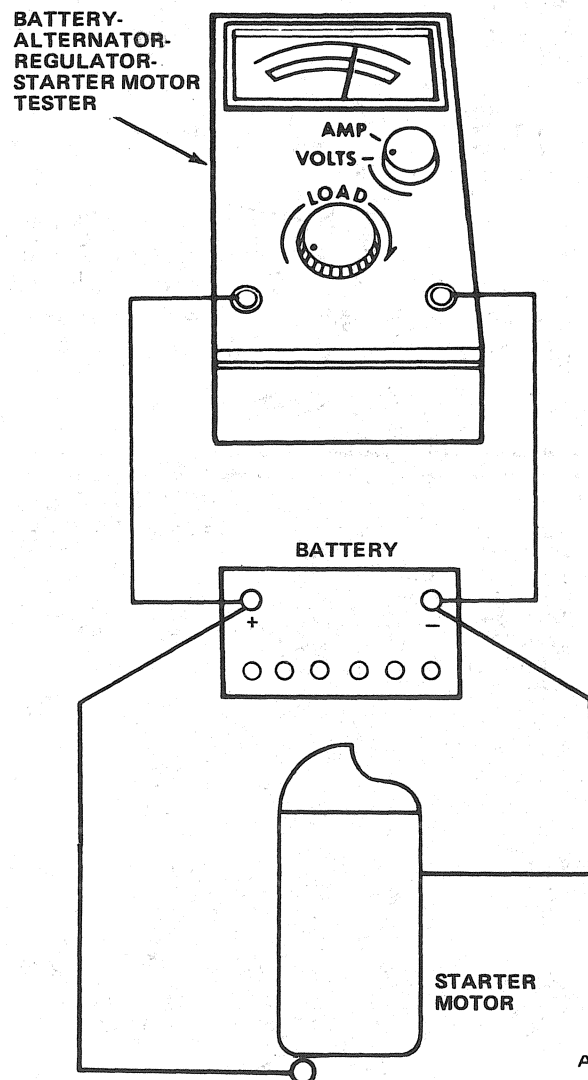

Fig. 1F-15 Starter Motor No-Load Test
(1) Insert piece of paper between contact points to serve as insulator (fig. 1F-16).
(2) Use ohmmeter to measure resistance between terminal and starter frame.
The result of this test will determine the quality of the solder joint at the contacts. Use an ohmmeter to measure the resistance through solder joint (fig. 1F-17). If the resistance is more than zero ohms, solder joint has excessive resistance. Repair by heating joint with 600 watt soldering iron.
The result of this test will determine the quality of the solder joint between the insulated brush braided wire and the field windings. Use an ohmmeter to test the resistance through solder joint by touching probes to brush and to copper bus bar (fig. 1F-18). If resistance is more than zero ohms, solder joint has excessive resistance. Repair by heating joint with 600 watt soldering iron.